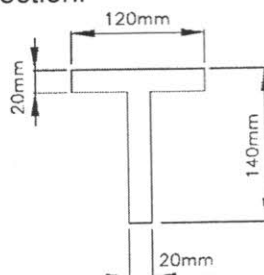

Figure.6(b)
- b) The T-section shown in fig.6(b). below is used as a simply supported beam over a span of 4 meters. It carries a uniformly distributed load of 8 kN/m over its entire span. Calculate the maximum tensile and compressive stresses occurring in the section.